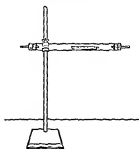

Fig 11
**20 Reduction by Means of Hydrogen** [Two students working together] Fit a hard glass tube, 25-30 cm long and open at both ends, with perforated corks and short glass tubes (Fig 11) Support it on the ring-stand by means of a clamp grasping